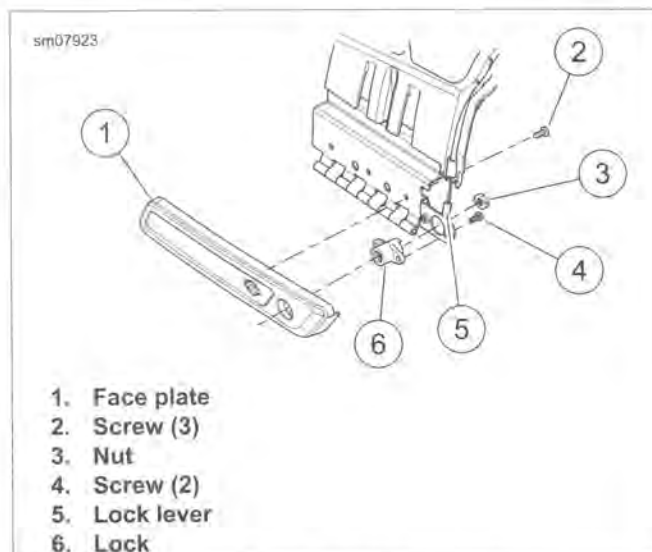

Figure 2-115. Saddlebag Lock
- See Figure 2-115. Hold face plate (1) while removing screws (2). Remove face plate.
- Remove nut (3). Remove lock lever (5).
- Remove two screws (4).
- Secure with two screws (4). Tighten to 20-30 **in-lbs** (2.3-3.4 Nm).
- Install lock lever and secure with nut (3). Tighten to 25-35 **in-lbs** (2.8-3.9 Nm).
- Secure face plate with screws (2). Tighten to 40-45 **in-lbs** (4.5-5.1 Nm).